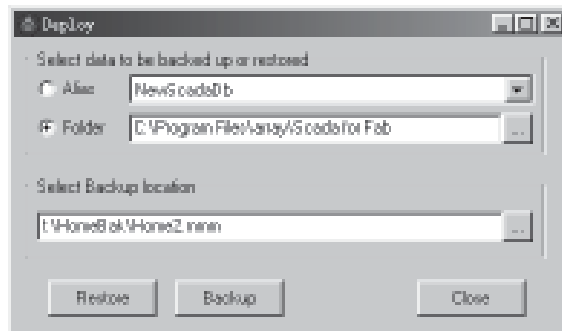

**Fig. 6-3 Print Setting Dialogue Block**
1. Select and click the options  $\text{System}$  |  $\text{Print}$ , then a dialogue block the system prompts you to carry out the print setup operation will be displayed in the interface as in Fig. 6-3.